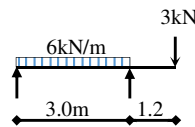

Fig. 4
4. A timber beam having a rectangular cross section 240 X 85mm wide is loaded as shown in figure 4. Determine the following: